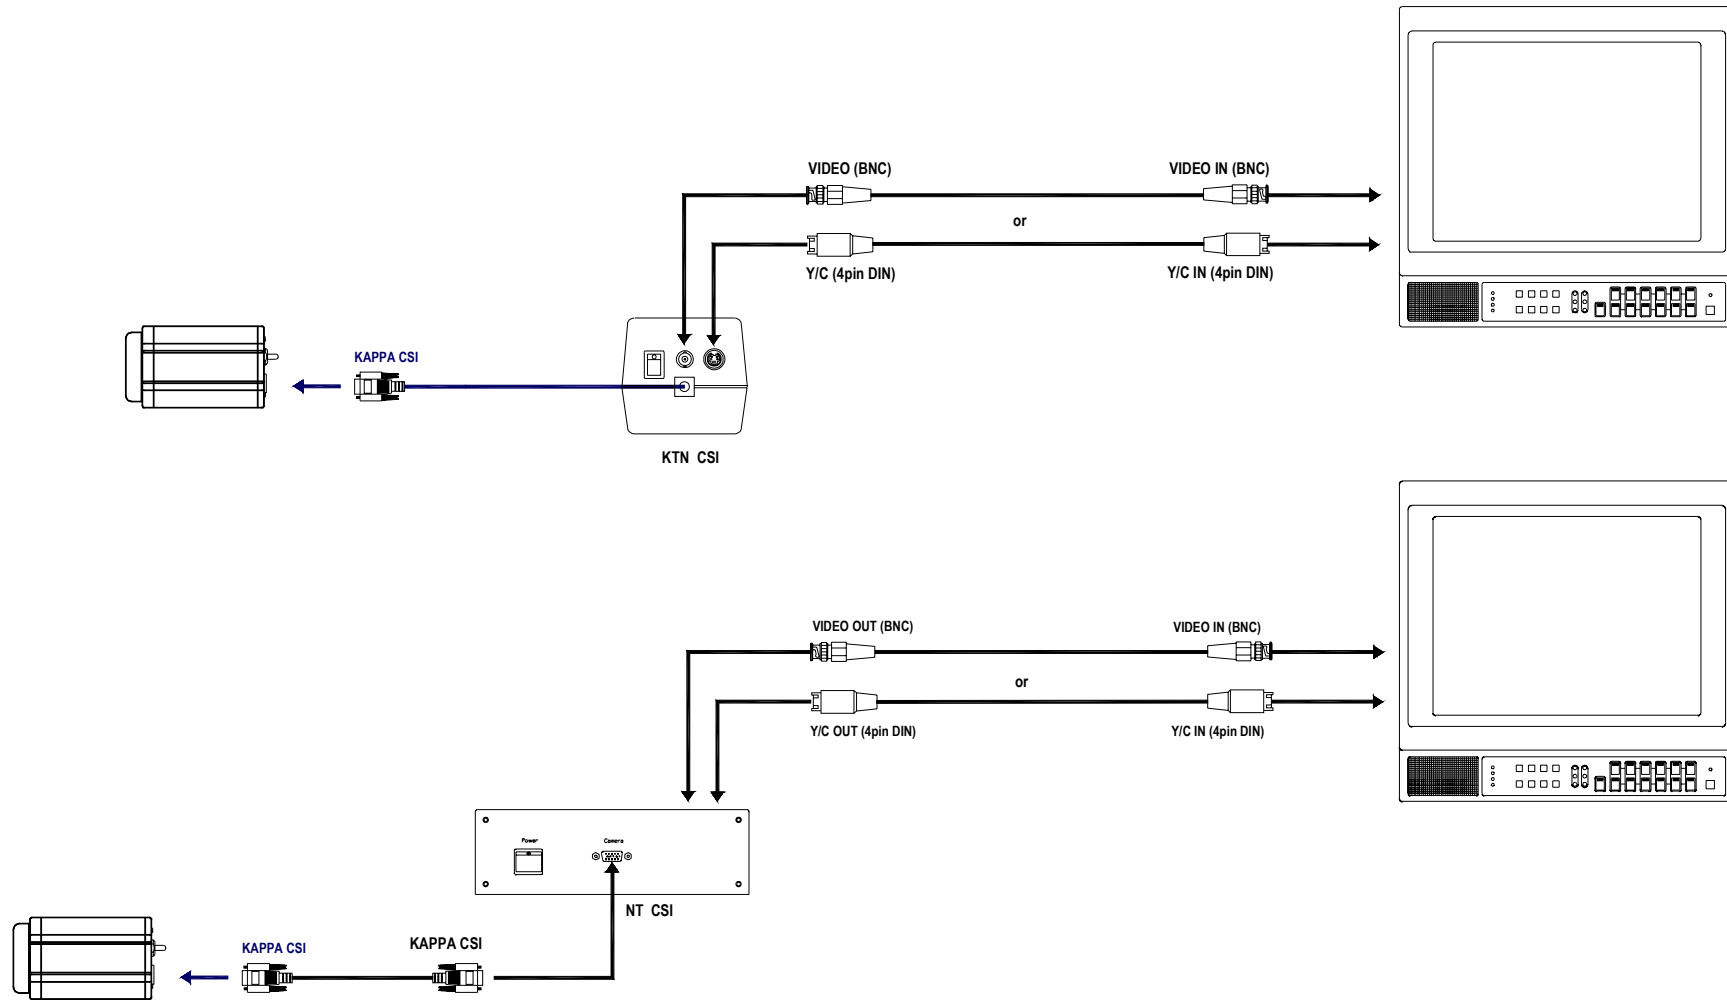
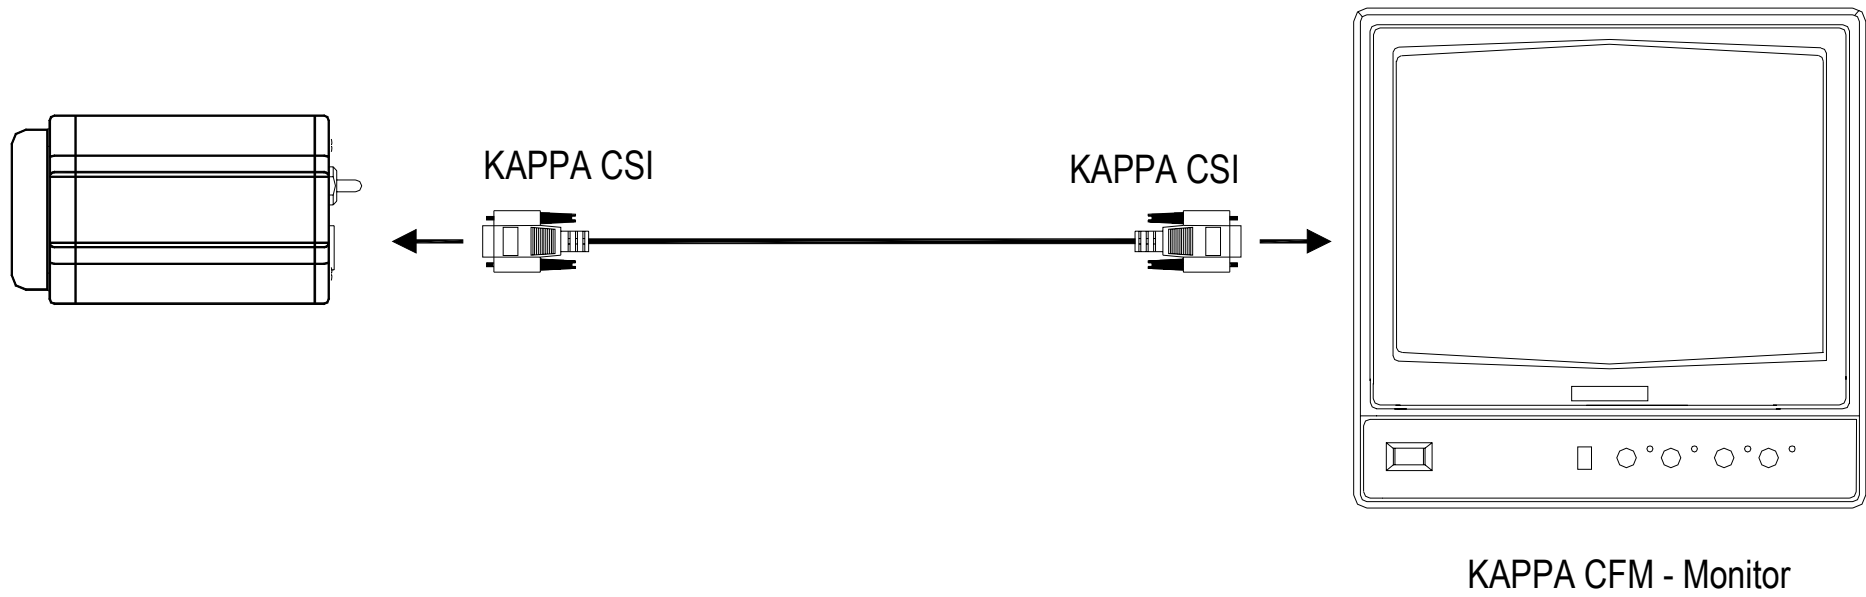

Fig. 1: CF 142, CF 143 and CF 144 Camera Power Supply KTN CSI/NT CSI and Monitor
Fig. 4: CFM-Combination
- Camera; camera power supply KTN CSI or NT CSI; video cable; monitor (fig. 1).
- Camera; camera supply cable; monitor with integrated camera power supply (CFM-combination) (fig. 4).
If you use the camera power supply KTN CSI, connect the camera supply cable which is fixed to the power supply to the KAPPA CSI socket of the camera. The composite video signal or the Y/C signal is alternatively available on the outputs of the power supply (fig. 1).
If you use the power supply NT CSI, the camera supply cable can be plugged to both sides: to the camera and to the power supply (fig. 1).
If you use a KAPPA CFM-monitor a separate camera power supply is not necessary because it is already integrated into the monitor (fig. 4). Additional instruments, e.g. monitor or video printer, can be connected to the power supply, see fig. 1 and 2.